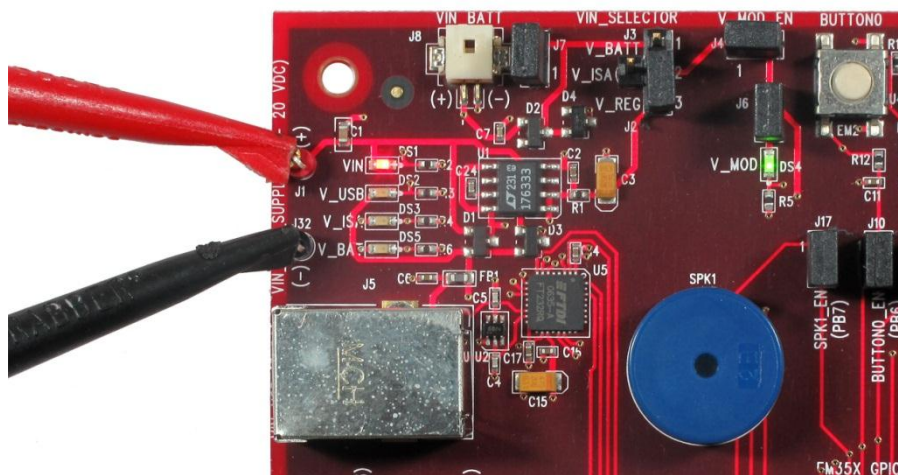

Figure 10. Breakout Board Power Supplied by DC Jumpers
- Breakout Board Power Supplied by DC Jumpers (Figure 10): The Breakout Board may also be powered by an external power source that provides 4-20 V dc. The power supply should be connected to jumpers J1 (+ supply) and J32 (ground). The power supply jumper on the Breakout Board should be in the lower vertical position, connecting V_REG to the center pin. The VIN LED will illuminate when power is applied. When powering the Breakout Board in this way, ensure the power switch on the Debug Adapter (ISA3) is in the EXT (External) position.